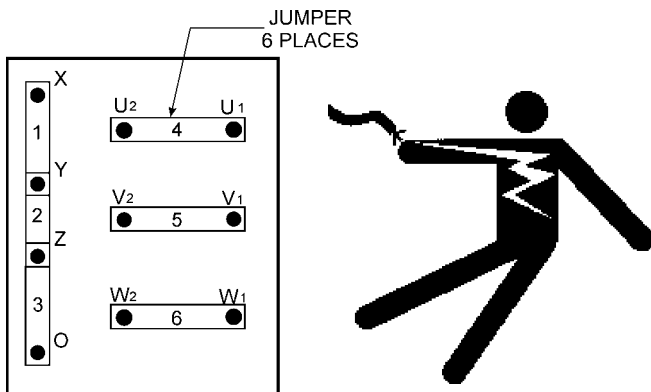

Figure 15. Voltage Change-Over Board
A wide range of voltages are available to supply voltage for many different applications. Voltages are selected by applying jumpers (6) to the **voltage change-over board** (Figure 15). To obtain some of the voltages as listed in Table 6 (see below) will require a fine adjustment using the **voltage regulator** (VR) **control knob** located on the control panel.
The **voltage change-over board** (Figure 15) is located on the control box, behind the generator control panel. This board has been provided for ease of voltage selection.